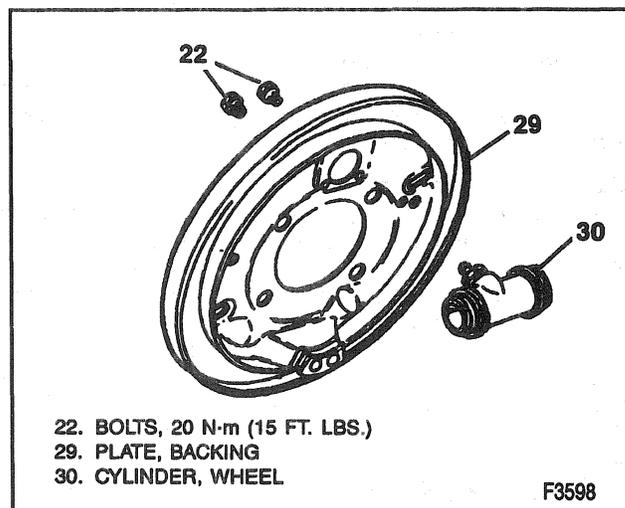

Figure 4—Wheel Cylinder Replacement
**Remove or Disconnect (Figure 4)**
3. Bolts (22).
4. Wheel cylinder (30).
**Install or Connect (Figure 4)**